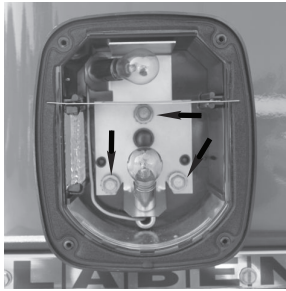

Figure 1
2. Using a Phillips screwdriver remove screws that hold plastic lens cover on **driver side** taillight. Use a 10mm socket to remove three bolts holding taillight to body shown in **Figure 1**. Gently pull taillight away from the vehicle and locate vehicle's factory wiring harness connectors. Carefully remove foam tape and set to the side. Separate connectors and set aside. Inspect connectors for dirt and debris and clean if necessary.